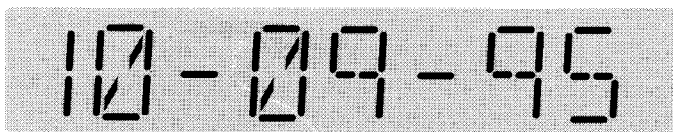

Figure 4-6 Typical Present Date Display
- Step 2:** Use the **Select** pushbutton to enter the **System** display menu. The present date will be the first display (Figure 4-6).
- Step 5:** Use the **Select** pushbutton to enter the valid password. Once the password is accepted, the present date first viewed in Figure 4-6 will be displayed with the two character month blinking. The blinking indicates which characters are able to be changed. Use the **Up** or **Down** pushbuttons to make the changes.
- Step 3:** Use the **Select** pushbutton to enter the **System** display menu. The present date will be the first display (Figure 4-6).